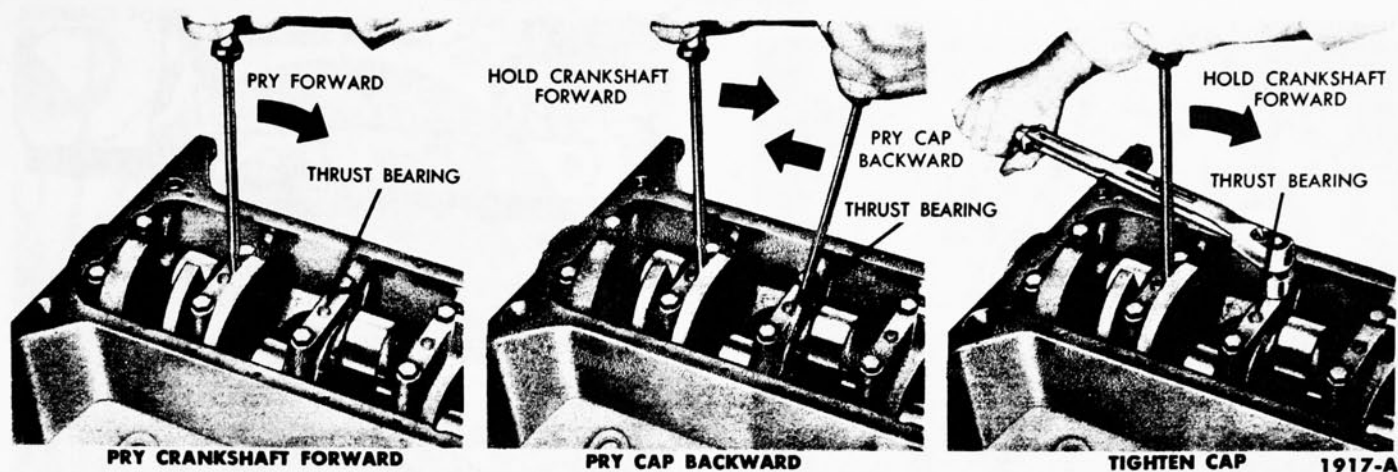

FIG. 36—Thrust Bearing Alignment
7. Install the thrust bearing cap with the bolts finger tight. Pry the crankshaft forward against the thrust surface of the upper half of the bearing (Fig. 36). Hold the crankshaft forward and pry the thrust bearing cap to the rear (Fig. 36). This will align the thrust surfaces of both halves of the bearing. Retain the forward pressure on the crankshaft, and tighten the cap bolts to specifications (Fig. 36).